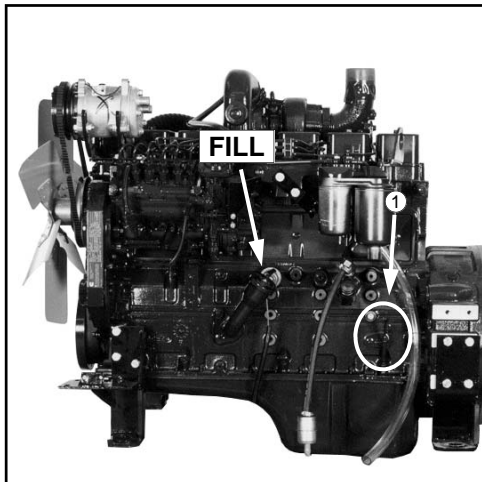

FIG 7.1
OIL LEVEL - The engine oil level dipstick is located on the left-hand side of the engine (fig. 7.1, item 1). Never operate the engine with the oil level below the “L” (low) mark or above the “H” (high) mark. Wait at least five minutes after shutting off the engine to check the oil level; this allows time for the oil to drain to the oil pan. Check the engine oil level daily, change it yearly or every 500 hours.